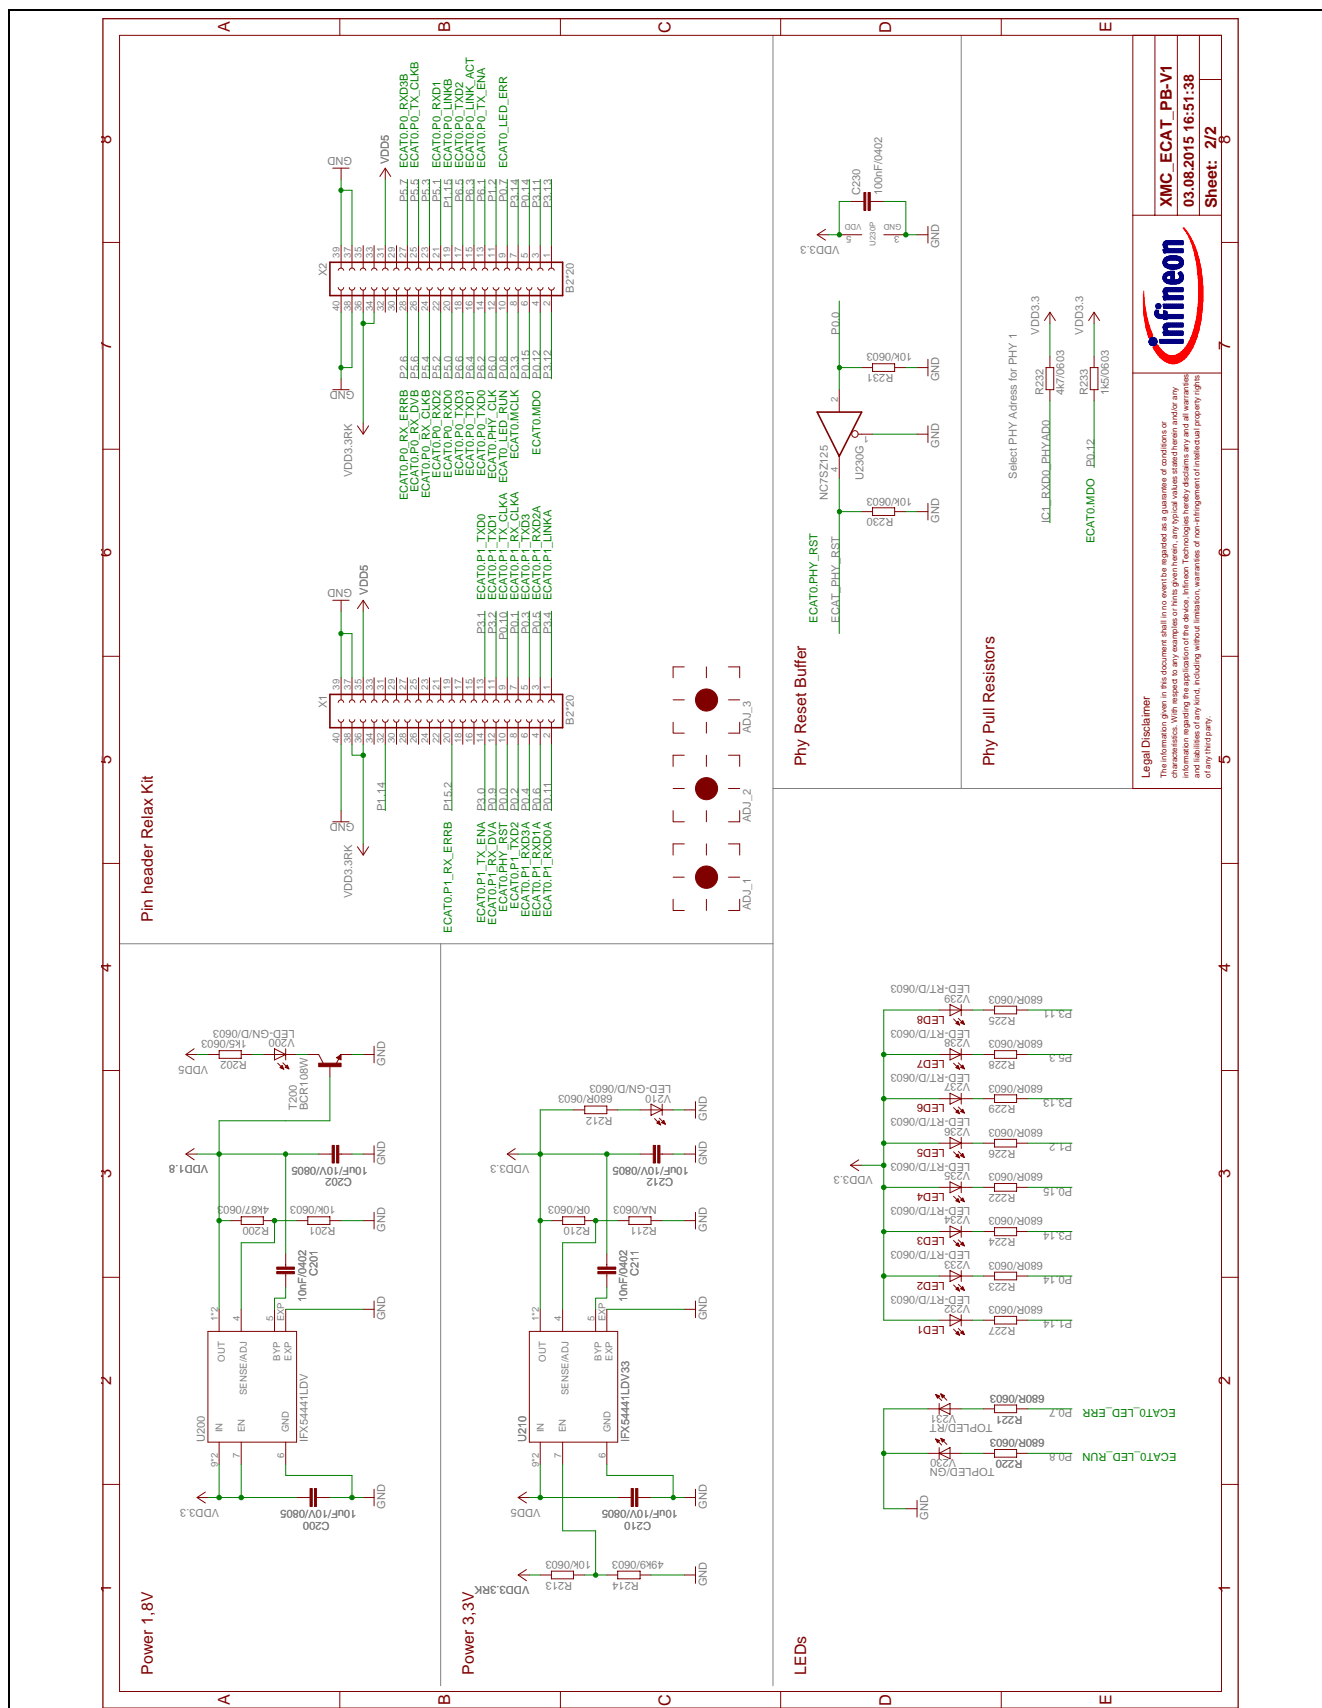

Figure 13 XMC EtherCAT Phy Board Schematic: Power, Connectors, LEDs
- Figure 13: XMC EtherCAT Phy Board Schematic: Power, Connectors, LEDs